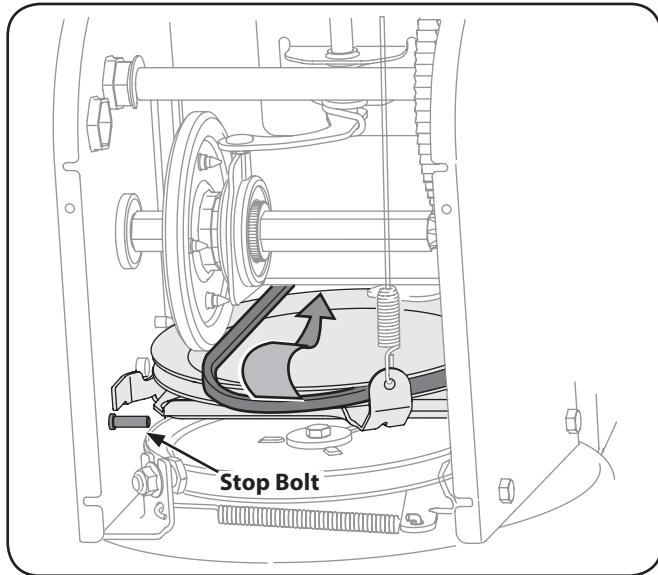

Fig. 7-8
6. Back out the stop bolt to increase the clearance between the friction wheel disc and friction wheel. See Fig. 7-8.
7. Slip the drive belt off the pulley and between friction wheel and friction wheel disc. See Fig. 7-8.